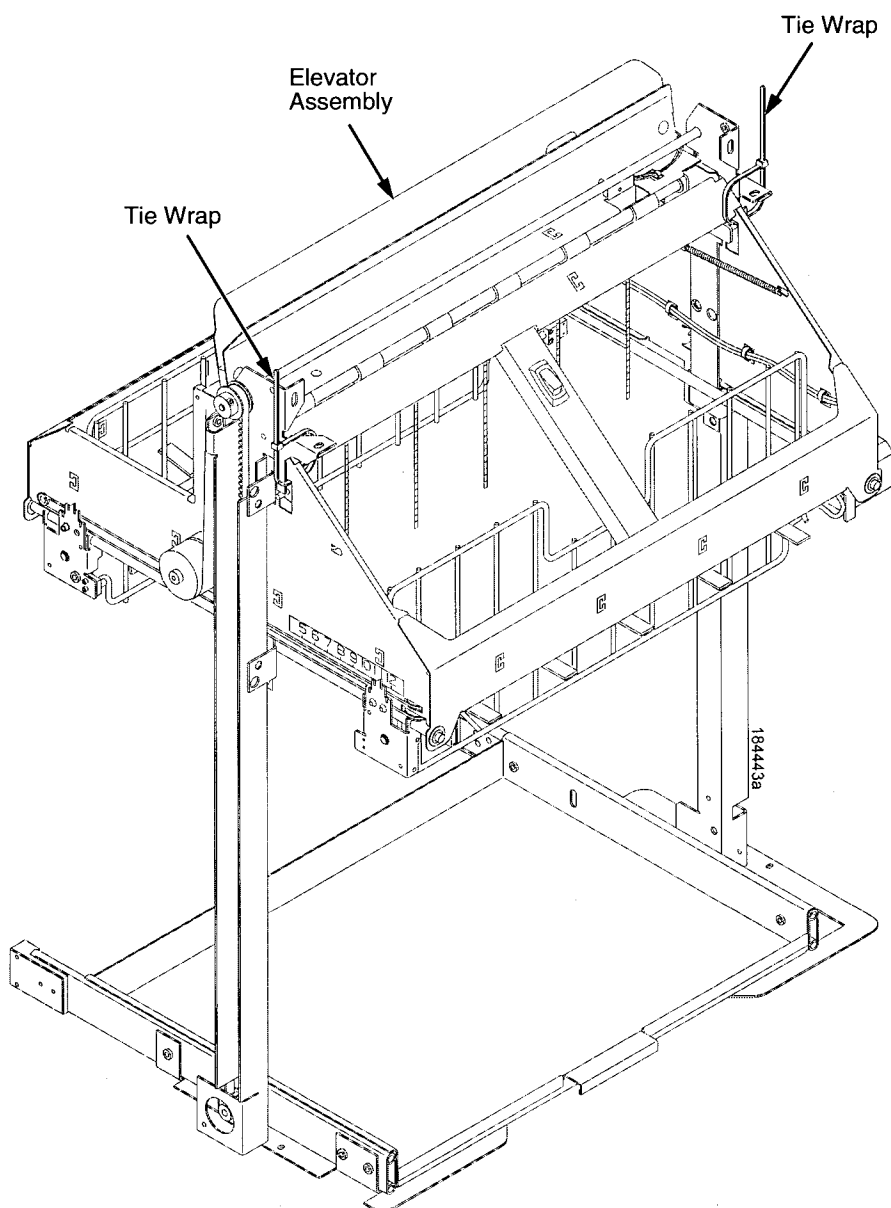

**Figure 95. Paper Tent**
33. If the paper you will use is not wider than 15.5 inches (39.5 cm), pull out the paper tray and install the paper tent. (Figure 95.) If the paper is wider than 15.5 inches (39.5 cm) leave the paper tent out of the printer